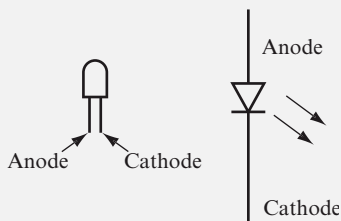

FIGURE 4.10
The infrared light in this project is generated by a light-emitting diode (LED). In an LED, a current runs through a PN junction that generates light. This same process occurs with all diodes. Infrared LEDs are simply diodes with a transparent case that enables the infrared light to show through. LEDs also have a PN junction made with semiconductor material that produces a large amount of infrared light. Figure 4.10 shows a typical LED and its schematic symbol, the symbol for a diode with arrows pointing outward, indicating that light is generated.
1. Align the rounded top of the LED toward the rounded top of the photodiode with the circuit boards a few feet apart from each other. (If you use a typical LED and photodiode, you must bend their leads to align them.) Note that the rounded top of both the LED and photodiode shown in Figures 4.10 and 4.11 contain a lens to emit or absorb light. Some LEDs and photodiodes have lenses on the side, instead of on the top. If it isn't obvious where the lens is in your components, check the manufacturer's data sheet.